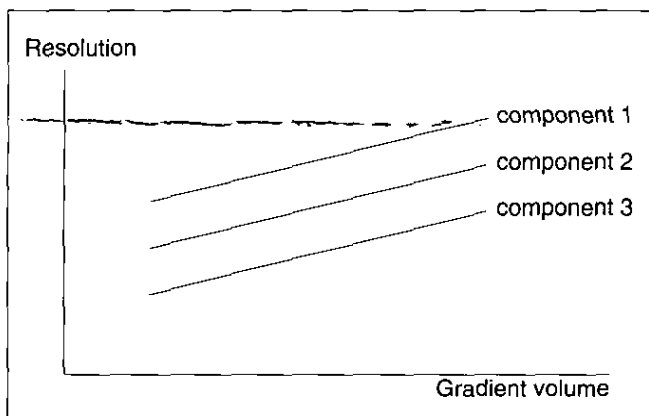
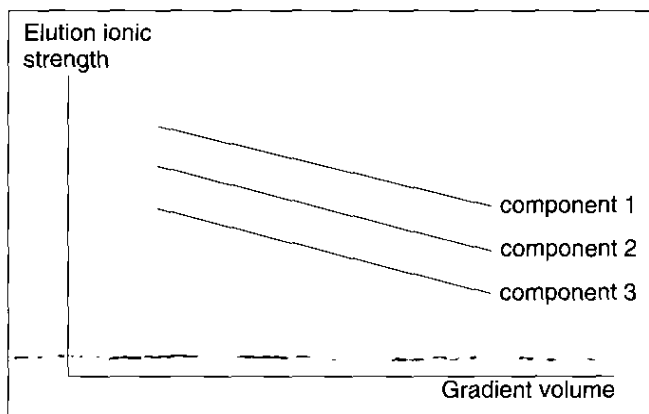

Fig. 2.
Fig. 3.
2. Optimise the gradient volume to get the best resolution. The resolution increases with increasing gradient volume (Fig. 2). At the same time, the elution ionic strength for the separated components is reduced (Fig. 3).